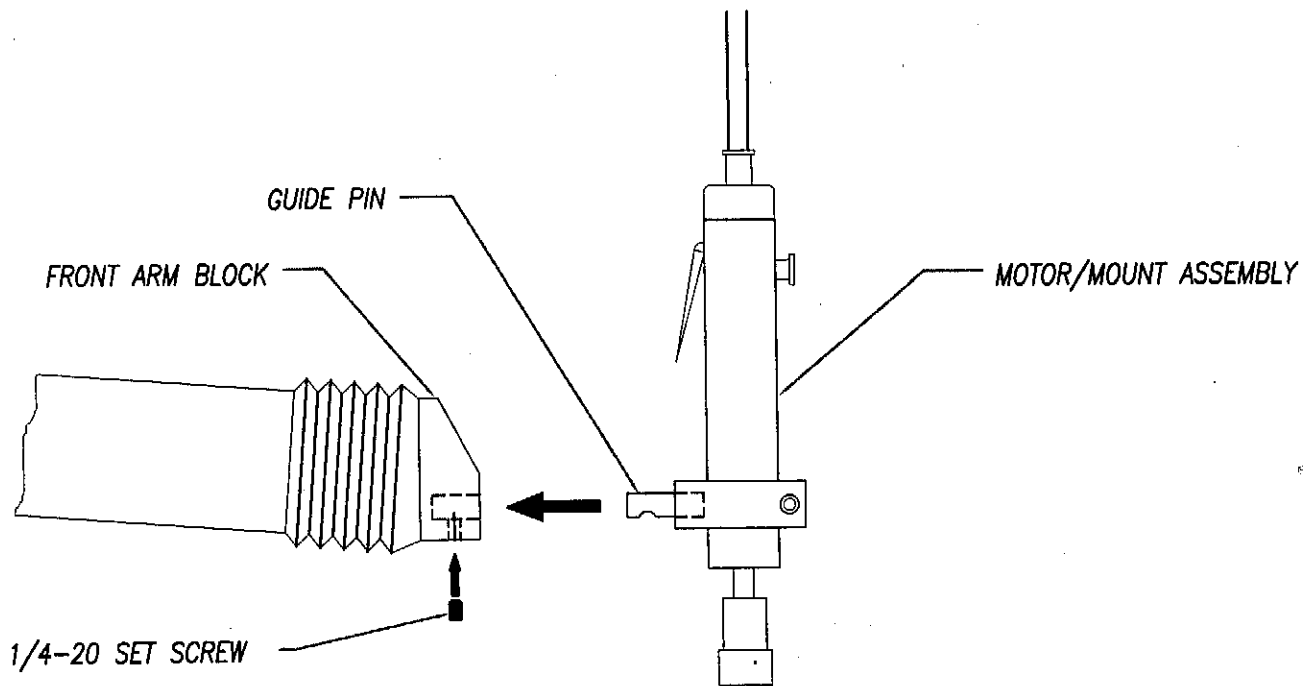

FIGURE 2
- 3) Insert the motor/mount assembly guide pins into the front arm block. Tighten the two 1/4-20 set screws on the bottom of the front arm block to secure the motor/mount assembly. (See Figure 2.)